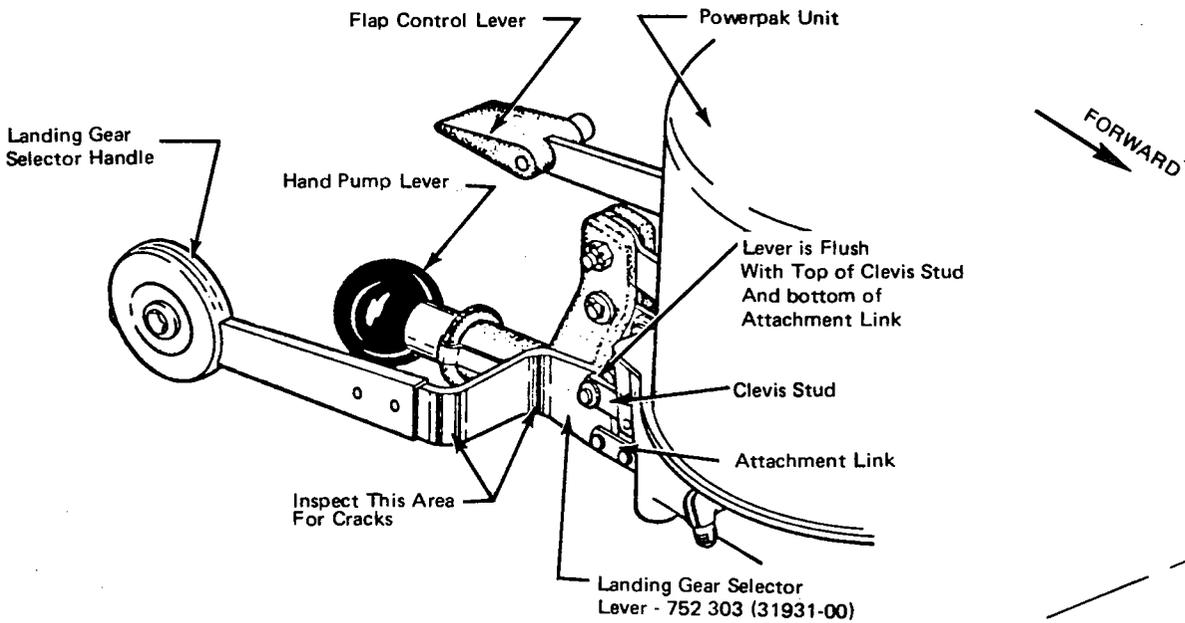
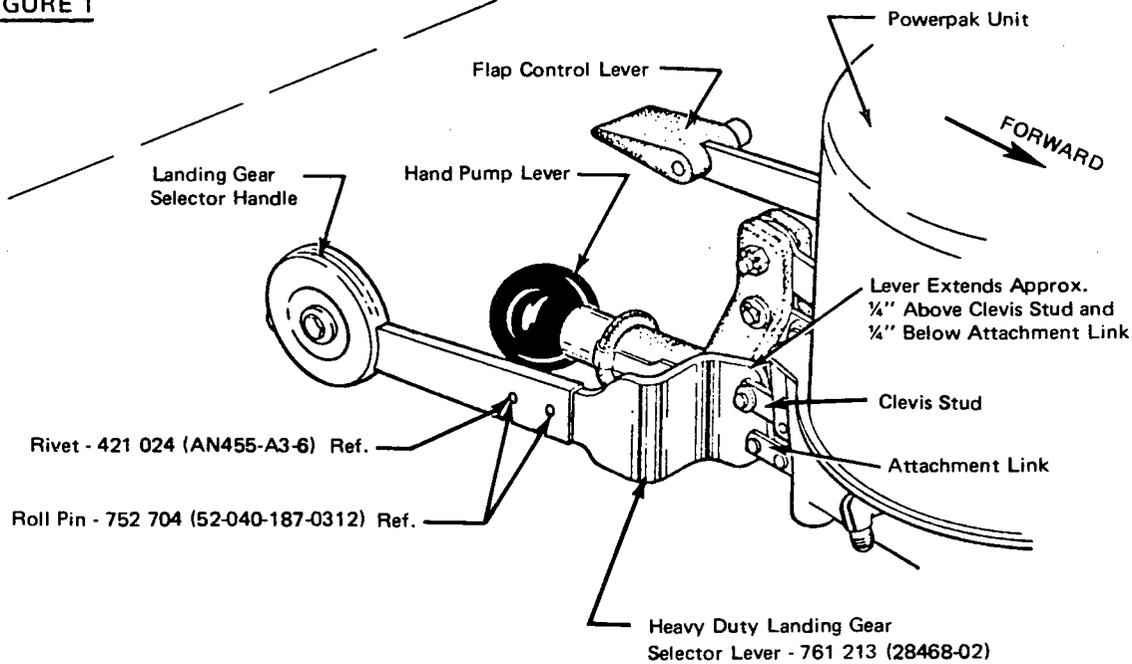

FIGURE 1
FIGURE 2
2. Refer to Figure 1 and Figure 2 above. Inspect and determine which landing gear selector lever is installed on aircraft.
3. If the heavy duty landing gear selector lever Part No. 761 213 (28468-02) is installed, as shown in Figure 2, no further action is required. Proceed to step 5.
4. If the landing gear selector lever installed is Part No. 752 303 (31931-00), as shown in Figure 1, proceed to step 4a.
- a. Inspect the two bend radii (See Figure 1) for evidence of cracks, using a 10X magnifying glass.
- c. If cracks are found, replace existing landing gear selector lever with new heavy duty lever Part No. 761 213 (28468-02) as shown in Figure 2.